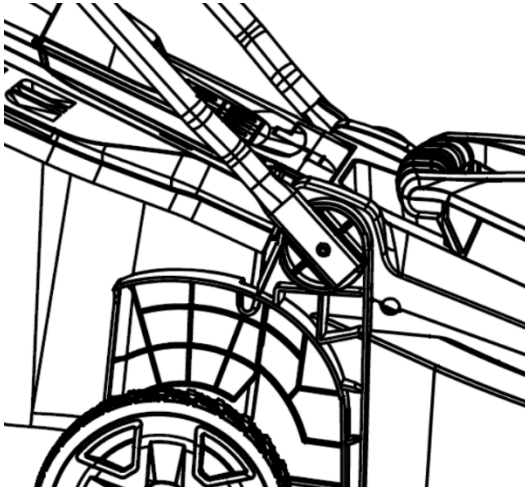

Fig.2A
1. Put the lower handle into the working position, and make sure the hole of the handle aligns with the hole of the mower base. (Fig.2A)